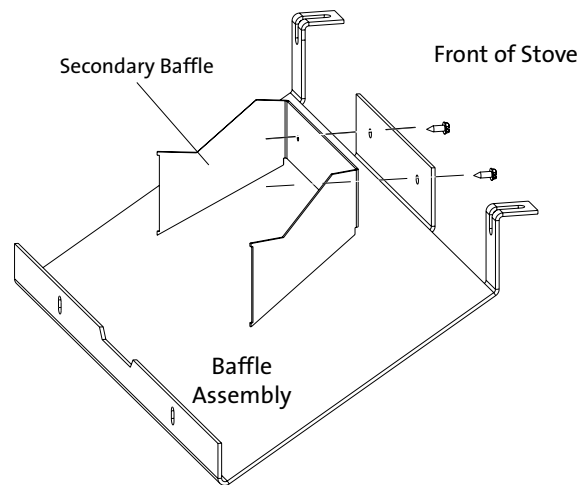

Figure 5.7. Conversion to Propane requires removal of the Secondary Baffle.
- Detach the Secondary Baffle with removal of two sheet metal screws shown in fig. 5.7. Replace the screws and retain the Secondary Baffle for potential future use.